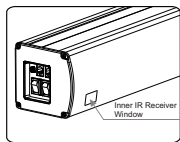

Figure 26
2. Use the controller if the IR window is not blocked (Figure 26)